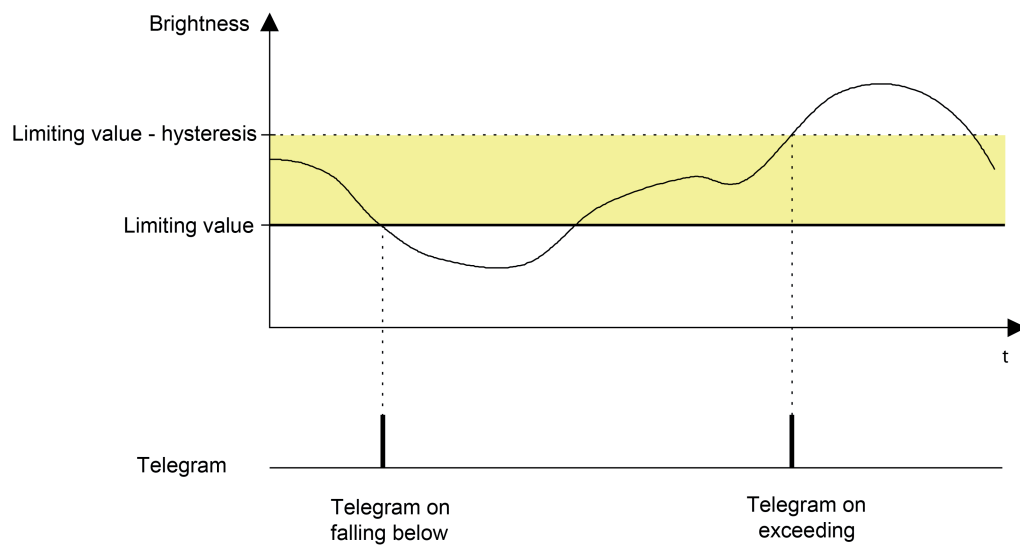

Figure 52: Example 2 of the limiting value definition
2. Brightness limiting value = Lower threshold (Figure 52)